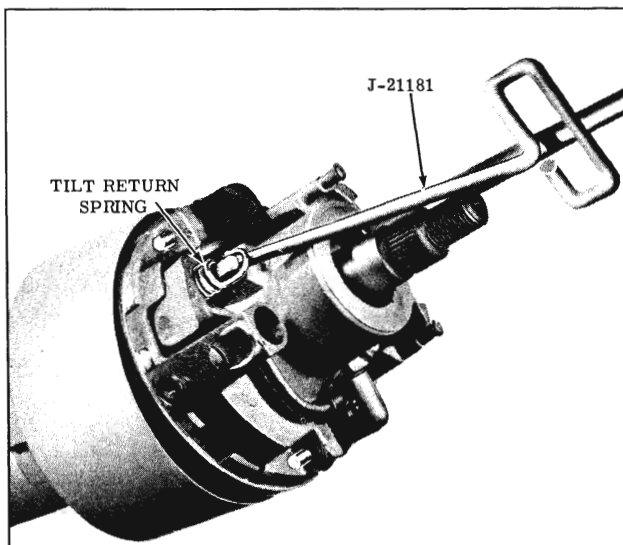

Fig. 4-105 Installing Tilt Return Springs
4. Install the upper ends of the two tilt return springs with Tool J-21181. (Fig. 4-105)